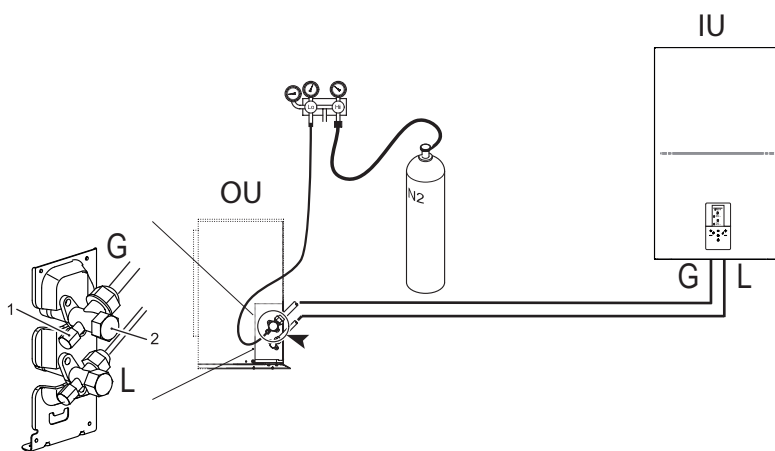

fig. 17 - Airtight test and leakage detection
- With the service valves of the outdoor unit completely shut, remove the cap from the service tap (part 1 - fig. 17) and the coupling (part 2 - fig. 17) of the gas valve (the larger one)